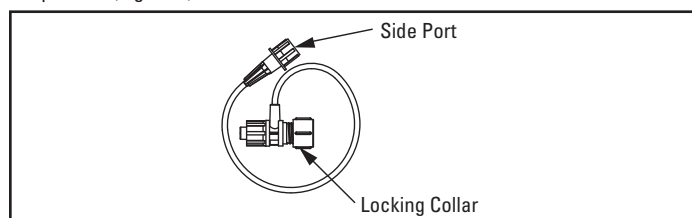

Figure 2. Flush Assemblies
7. Attach flush assembly to catheter hub. Ensure locking collar is in open position (Figure 2).